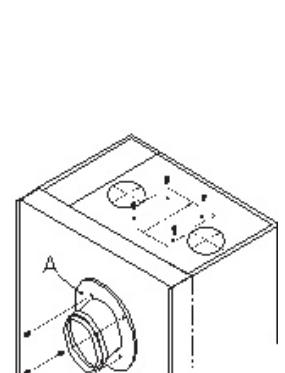

Fig. 21d
Attach the flue adaptor (A) to the rear of the appliance using the ring seal and four screws supplied (fig 21d)